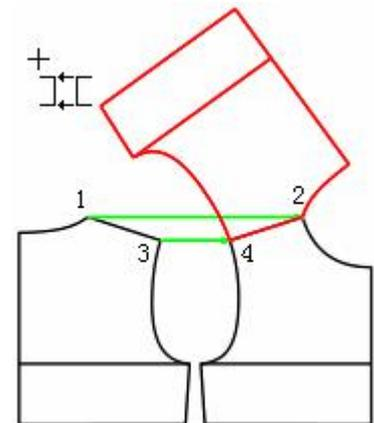

figure 3
1. As shown in Figure 3, Use this tool to click 1, 2, 3, 4 points in sequence;